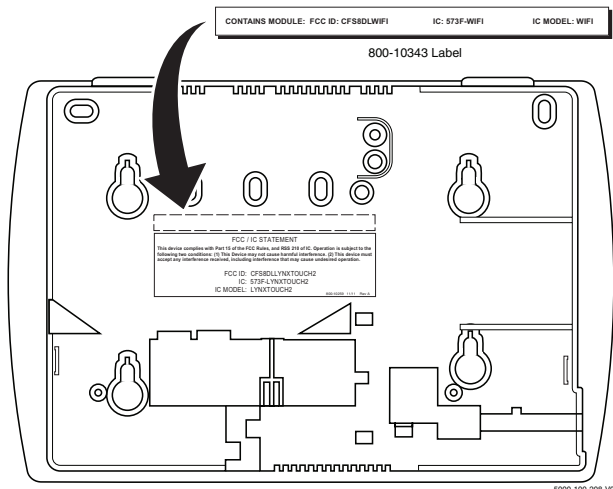

Figure 1. FCC/IC Label Location (L5200 Shown)
1. Install the provided FCC/IC label (P/N 800-10343) on the control's case back (refer to Figure 1).